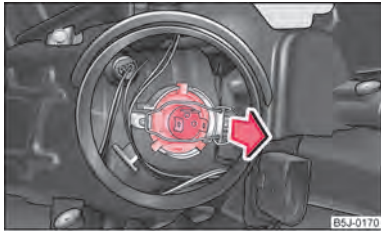

Fig. 153 Removing the light bulb for the low beam and main beam light
- Pull off the connector from the lamp, release the sprung wire clamp and pull out the lamp towards the rear ⇒ fig. 153.